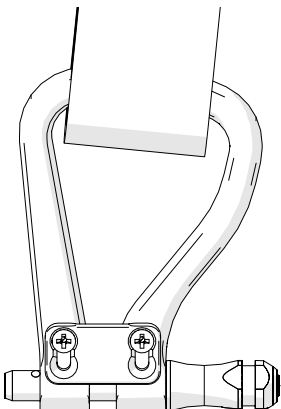
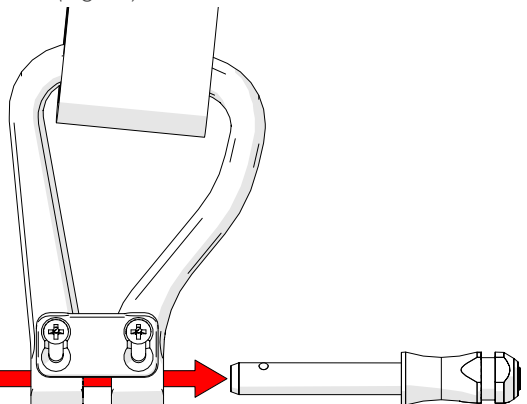

Fig. 98 - Press release button
Fig. 99 - Pull pin from
2. Simultaneously press the pin's release button (Fig. 98) and pull the pin from the shackle (Fig. 99).